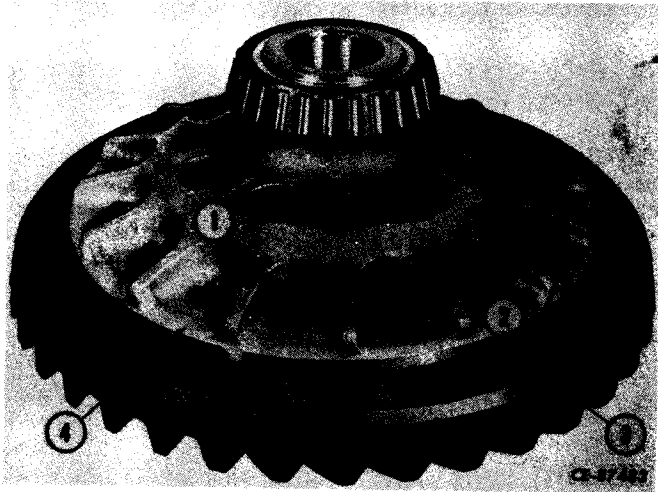

Figure 6-27
Install ring gear (3, Fig. 6-27) on flanged case half (4) using retaining cap screws, flat washers (2) and hex nuts (1). Tighten the cap screws to the recommended torque (refer to "SPECIAL TORQUES").